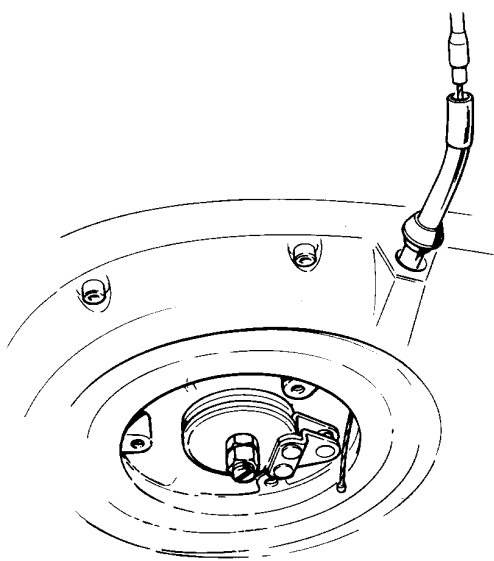

Fig. G8. Clutch Cable Removal at the Primary Chaincase
5. Unhook the cable end from the operating lever with long nosed pliers. (Fig. G8).